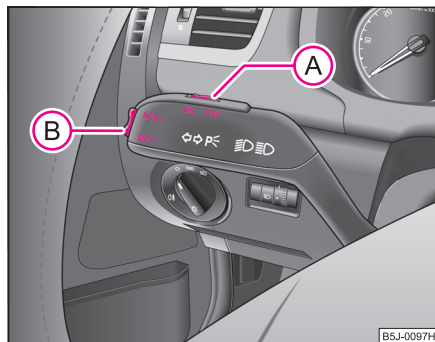

Fig. 93 Operating lever:
- Press the switch (A) ⇒ fig. 93 into the position **ON**.
- After the desired speed has been reached, press the rocker button (B) into the **SET-** position - the current speed is stored.
- You can **increase** the stored speed without depressing the accelerator, by pressing the rocker button (B) ⇒ fig. 93 into the **RES+** position.
- Press the switch **(A)** ⇒ page 110, fig. 93 to the right into position **OFF**. ■